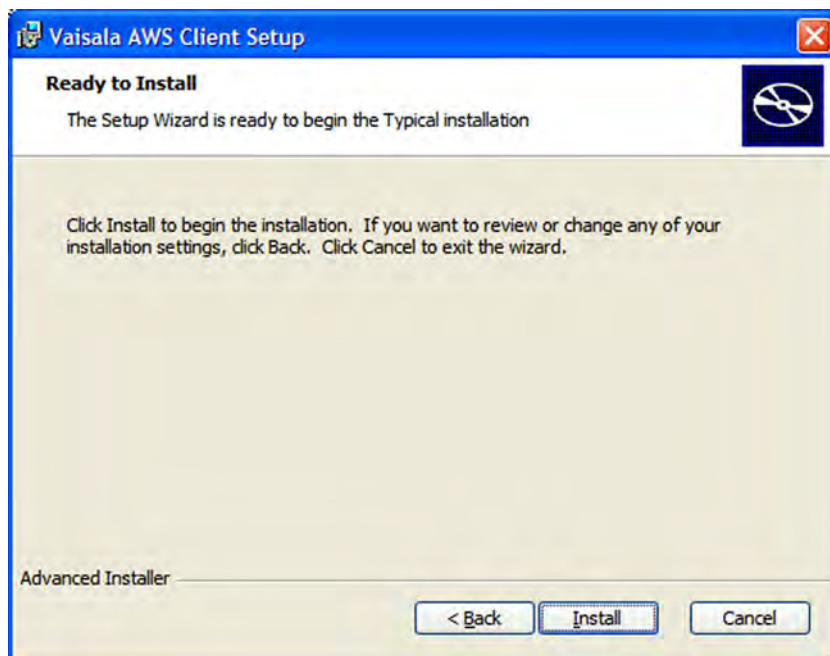

Figure 16 Ready to Install Window
5. The **Ready to Install** window is displayed as shown in Figure 16 on page 39. Start the installation by selecting **Install**.